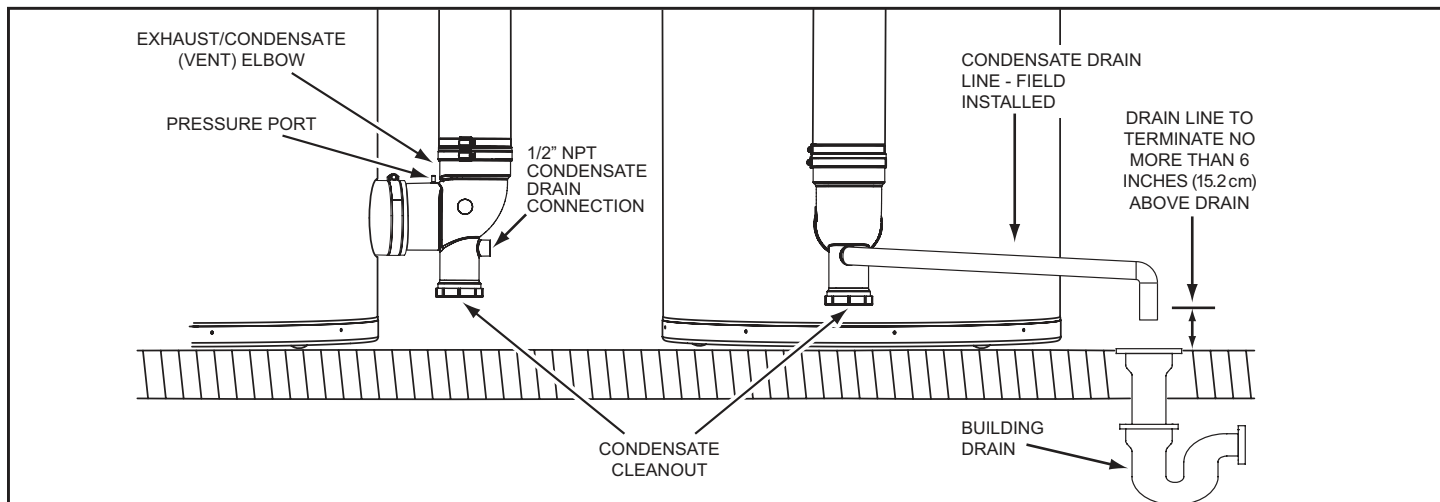

Figure 53. Condensate Drain Installation
2. Install a 1/2 inch PVC condensate drain line between condensate drain connection on the Exhaust/Condensate Elbow and a suitable building drain. The condensate line must slope to an open drain. See **Figure 53**.
3. Terminate the condensate drain piping with an elbow above the drain. Ensure that any discharge will exit the condensate drain line no more than 6 inches (15.2 cm) above a suitable building drain, or external to the building. See **Figure 53**.
4. Ensure the condensate drain line is not elevated above the condensate drain connection on the Exhaust/Condensate Elbow. See **Figure 53**.
Ensure all gas pipe is clean on the inside before installation. To trap any dirt or foreign material in the gas supply line a sediment trap must be installed as shown in Figure 53. The sediment trap must be readily accessible and not subject to freezing conditions. Install in accordance with the recommendations of the local gas utility company.
6. Install a sediment trap as shown in *Figure 53* (page 38).
7. Install a Main Gas Shutoff valve in the supply gas line as shown in *Figure 53* (page 38).
1. For test pressures exceeding 1/2 psi (3.45 kPa), disconnect the water heater and its Main Gas Shutoff Valve from the gas supply piping system during testing. See *Figure 53* (page 38). The gas supply line must be capped when disconnected from the water heater.